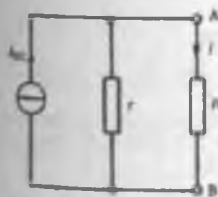

Figure 13.52
Note the symbol for an ideal current source (BS 3939, 1985), shown in Fig. 13.52
- (iv) determine the current I flowing in resistance R from the Norton equivalent network shown in Fig. 13.52, i.e.